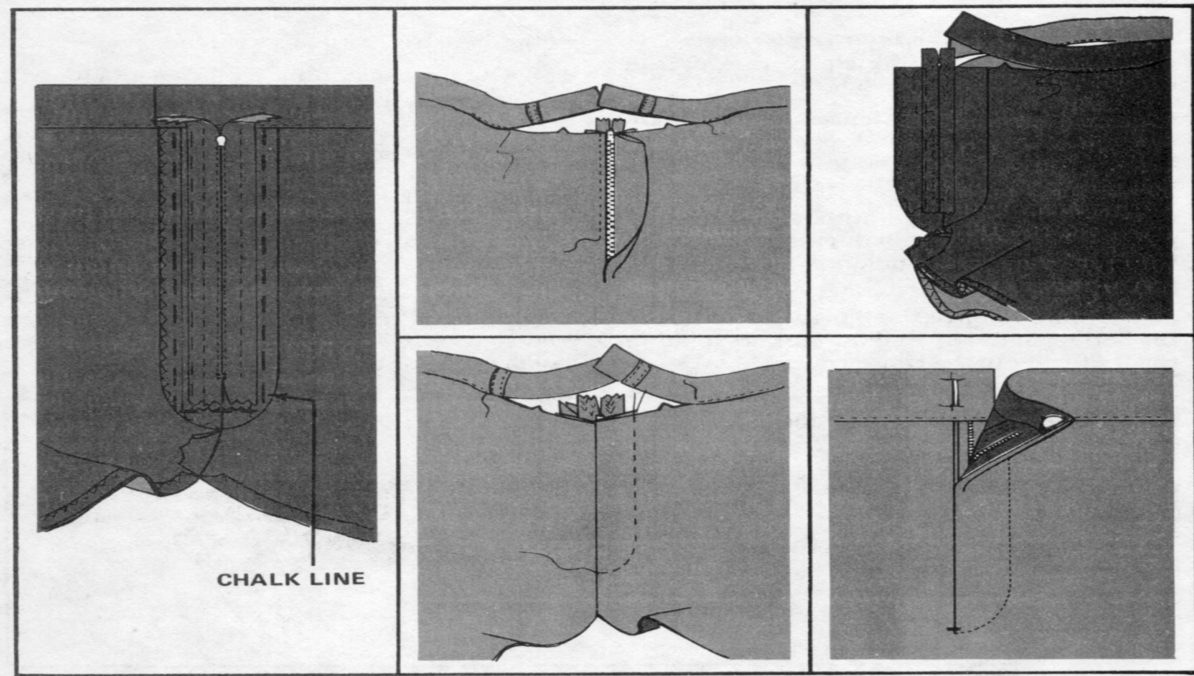

Figure 4-12. Replacing zipper on trousers
(1) To remove zipper from trousers (Figure 4-12)--